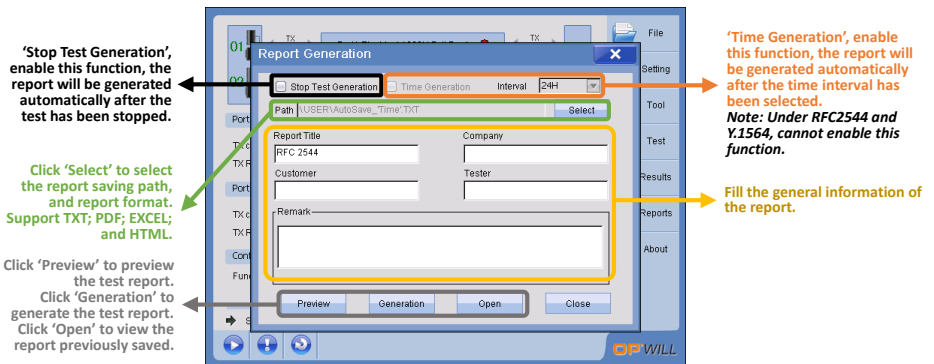

Figure 3.1.14 Report Generation Dialog Box
- After click 'Report Generation', the dialog box of report generation will appear, see Figure 3.1.14;